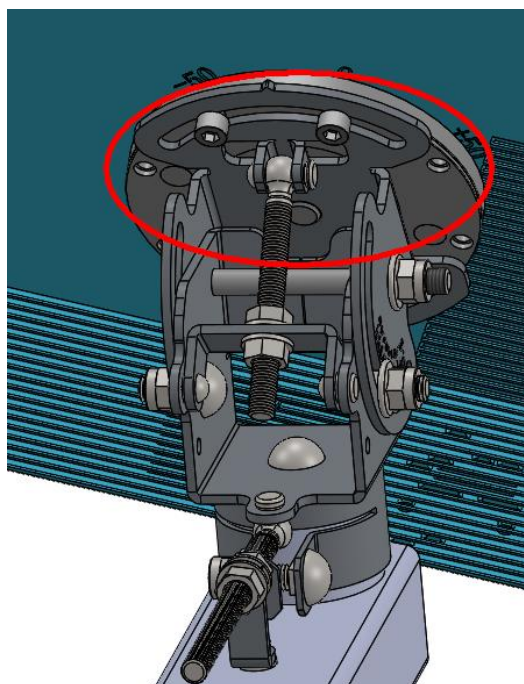

Figure 5-17 Polarization Adjustment
3. Polarization adjustment: The user rotates the Terminal panel according to the demand to make the current polarization angle consistent with the reference polarization angle. As shown in figure 5-17.